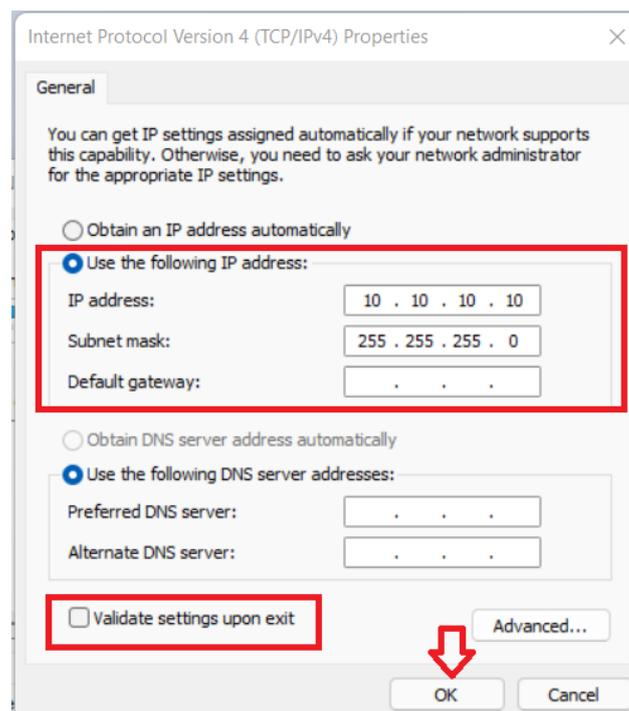

Figure 18: Network settings that need to be set prior to running the machine
- 5- On the pop-up Internet Protocol Version 4 ( TCP/IPv4) properties window select the “Use the following IP address” option and fill in the IP address of the CNC Controller and set the Subnet mask as shown. The default IP address of the is 10.10.10.10 (this can be changed, refer to the CNC Controller manual for more details) and set the subnet mask to 255.255.255.0 value. Figure 18 shows the IPV4 network IP address that needs to be set.